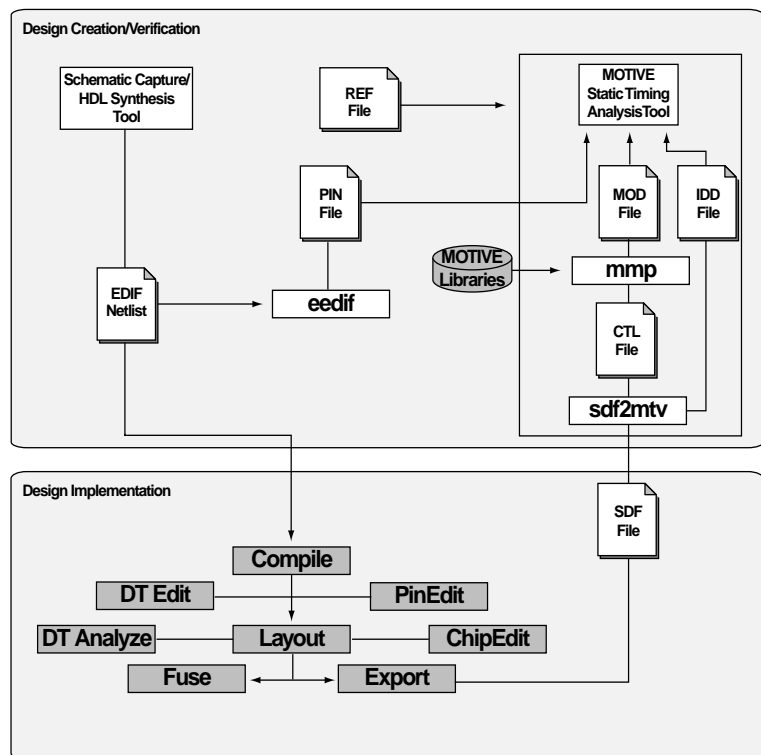

Figure 2-1. Actel-MOTIVE Static Timing Analysis Design Flow
Figure 2-1 shows the design flow for performing static timing analysis on an Actel design using the MOTIVE and Designer Series software¹.
1. Actel-specific utilities/tools are denoted in grey in Figure 2-1.